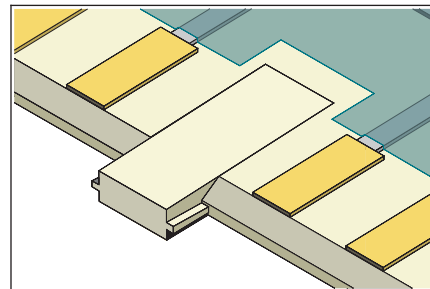

Figure 4 Insert the replacement piece into the slot.
12. Insert the replacement piece into the slot. Check alignment. Remove excess epoxy. (See Figure 4.)